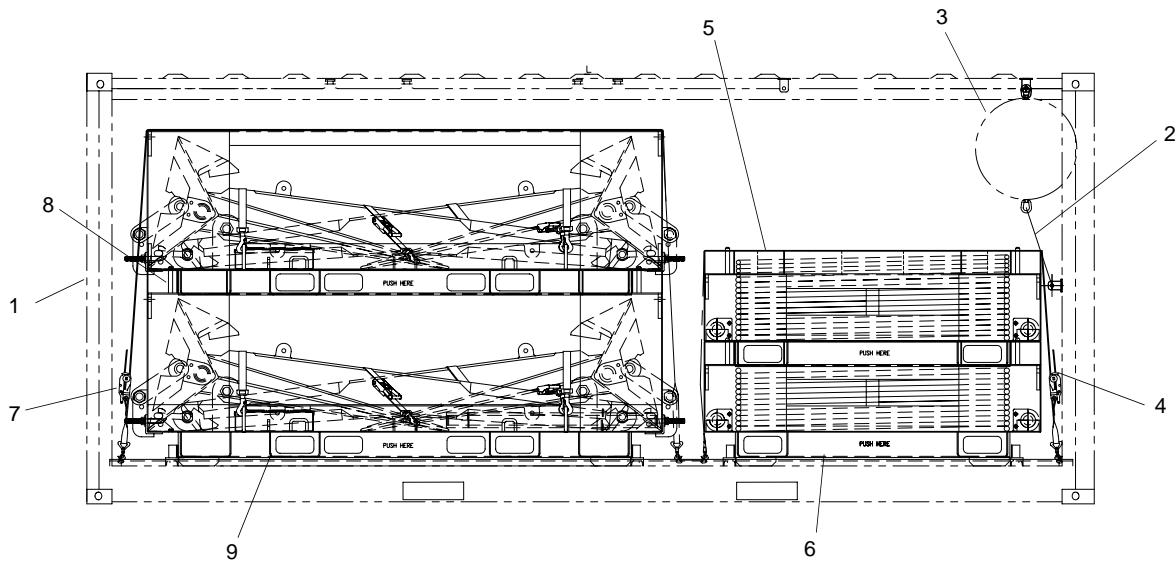
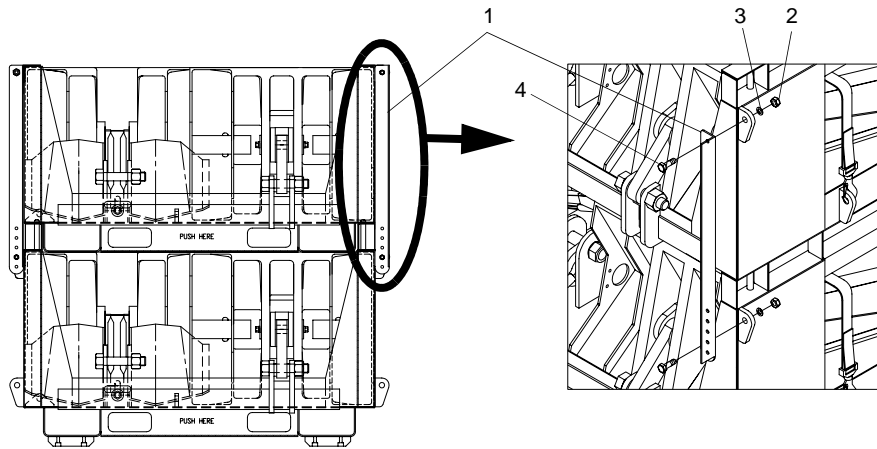

Figure 19. Offshore Anchor Container
Figure 22. Anchor Pallet Tie Bars
1. Using crane, position offshore anchor container (figure 19, item 1) on FC platform.
2. Unlatch and open container (figure 19, item 1) end and side doors.
4. Loosen anchor buoy tie down strap (figure 19, item 2) and unhook front end of strap.
5. Pull anchor buoy tie down strap (figure 19, item 2) through loops on ends of anchor buoys (figure 19, item 3) and lay tie down strap (figure 19, item 2) at back of container.
6. Loosen two mooring cable pallet tie down straps (figure 19, item 4) and pull straps over mooring cable pallets (figure 19, items 5, 6). Lay the tie down straps (figure 19, item 4) out of the way to allow for removal of mooring cable pallets (figure 19, items 5, 6).
7. Using forklift, remove mooring cable pallets (figure 19, items 5, 6) from container (figure 19, item 1) and position on FC platform.
14. Loosen and remove two anchor pallet tie down straps (figure 19, item 7). Place straps in rear of container (figure 19, item 1).
15. Remove four anchor pallet tie bars (figure 22, item 1) by removing nuts (figure 22, item 2), washers (figure 22, item 3) and bolts (figure 22, item 4) from each end of bars (figure 22, item 1). Reinstall hardware in bars (figure 22, item 1) to prevent loss. Place bars (figure 22, item 1) in rear of container (figure 19, item 1).
16. Using forklift, remove upper anchor pallet (figure 19, item 8) from container (figure 19, item 1) and position on FC platform.
17. Using forklift, remove lower anchor pallet (figure 19, item 9) from container (figure 19, item 1) and position on FC platform.
23. Stow pallets and loose items in offshore anchor container (figure 19, item 1).
- Using forklift, place the upper anchor pallet (figure 19, item 8) on top of the lower anchor pallet (figure 19, item 9).
- Install four anchor pallet tie bars (figure 22, item 1) on anchor pallets with nuts (figure 22, item 2), washers (figure 22, item 3) and bolts (figure 22, item 4). Tighten nuts (figure 22, item 2) and bolts (figure 22, item 4).
- Using forklift, place the anchor pallets (figure 19, items 8 and 9) in container (figure 19, item 1), pushing them to the rear of container, against track.
- Using forklift, place upper mooring cable pallet (figure 19, item 5) on top of lower mooring cable pallet (figure 19, item 6).
- e. Using forklift, place mooring cable pallets (figure 19, items 5, 6) in container (figure 19, item 1), pushing them to the rear of container, against track.
26. Using crane, remove offshore anchor containers (figure 19, item 1) from FC platform.